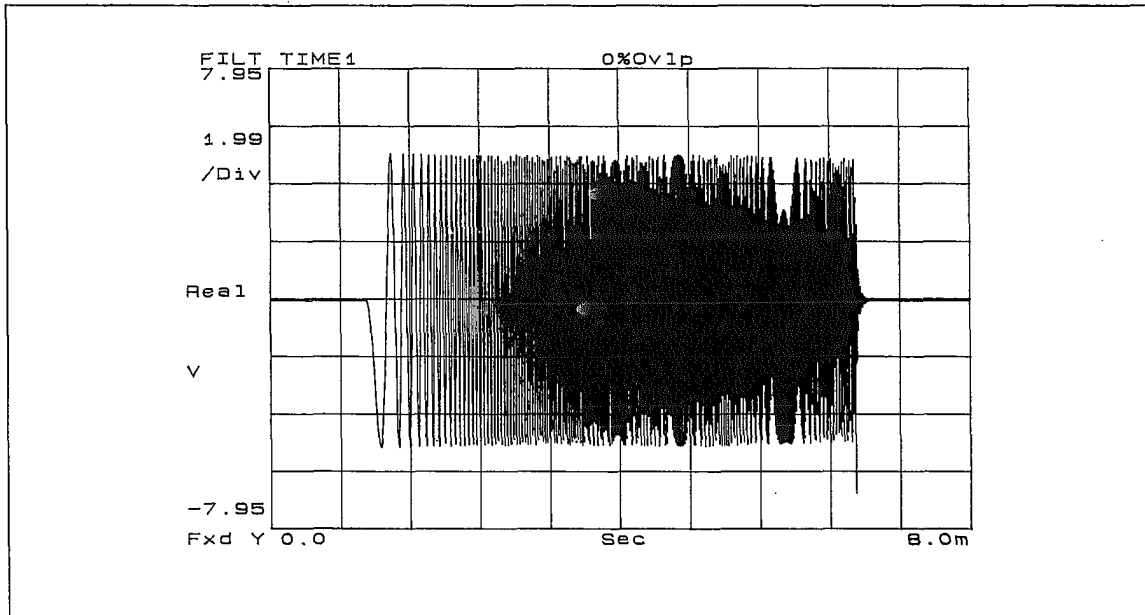

Figure 7-8 Burst Chirp
- 5. Refer to figure 7-8 to verify a normal burst chirp.